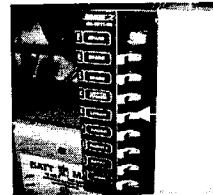

Figure 3
6.3 Power for the GPS will come from the circuit breaker panel G5-9211-00 breaker 5, as shown in figure 3. (Breaker 5 is a 5-amp breaker marked LORAN)